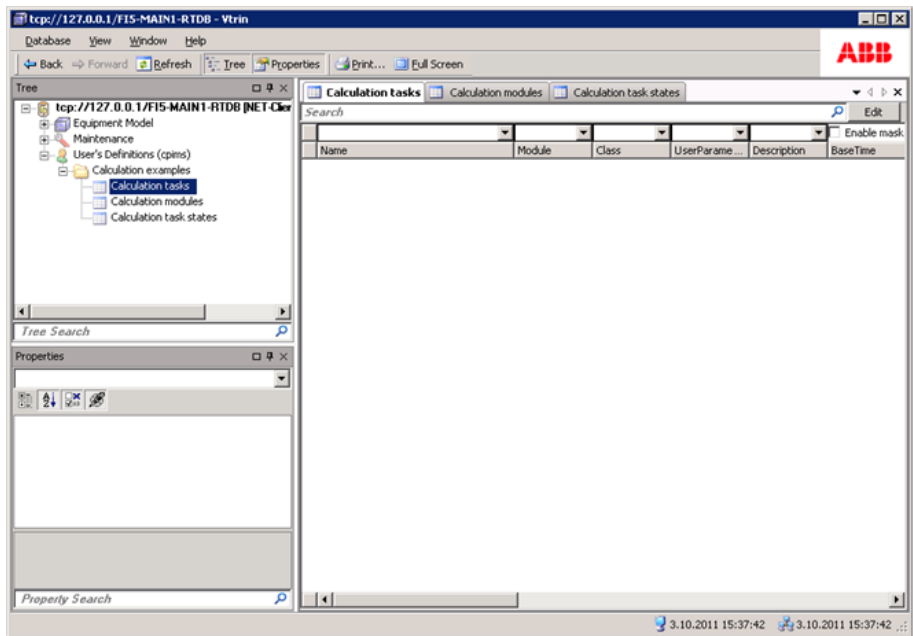

Figure 82. Calculation tasks, modules and task states created
4. After creating the above displays, the tree structure appears as shown in Figure 82.